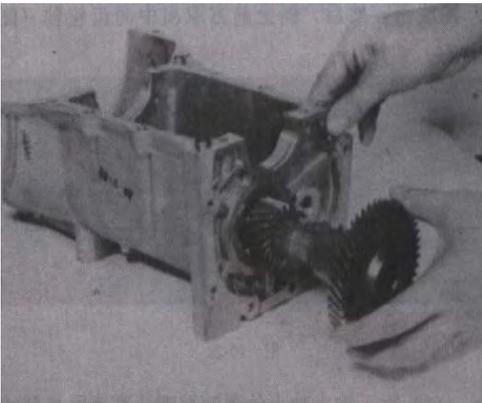

Fig 10-21
(3) Remove countershaft 5th gear and counter-shaft reverse gear. (FIG.10-21)